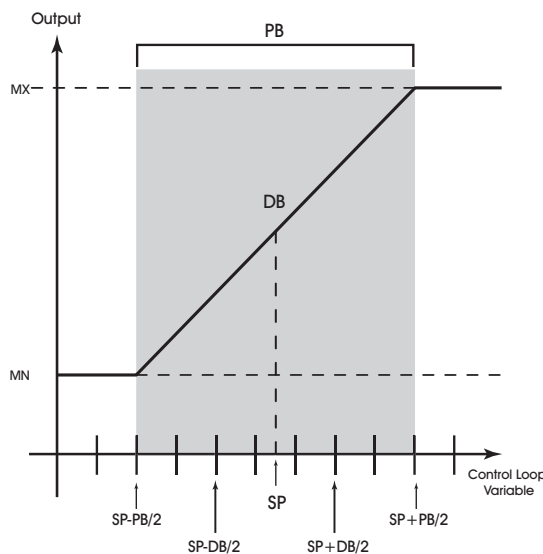
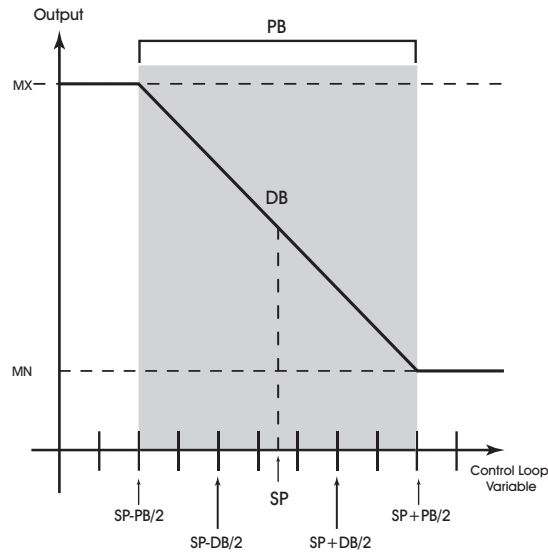

Figure 3-7: Proportional Band for Normal Acting Control (SG = 0)
Figure 3-8: Proportional Band for Reverse Acting Control ($SG = 1$)
To determine **PB**, first decide how closely the SBC-GPC3 must control the output to the setpoint. For instance, if the setpoint is 72°F, then an acceptable control range might be within two degrees of the setpoint. This control range can be expressed as a band centered on the setpoint: from 70° to 74°, or 4 degrees—the *proportional band (PB)*. Refer to Figure 3-7 and Figure 3-8.
For normal acting control loops (see Figure 3-7), **PO** is set to maximum output when the input variable equals the setpoint plus half of the proportional band ($CS + PB/2$). The point **PO** is set to minimum output when the input variable equals the setpoint minus half of the proportional band ($CS - PB/2$). These associations are reversed for reverse acting control loops. See Figure 3-8. **PO** will be midway between minimum and maximum output when $MV=CS$.